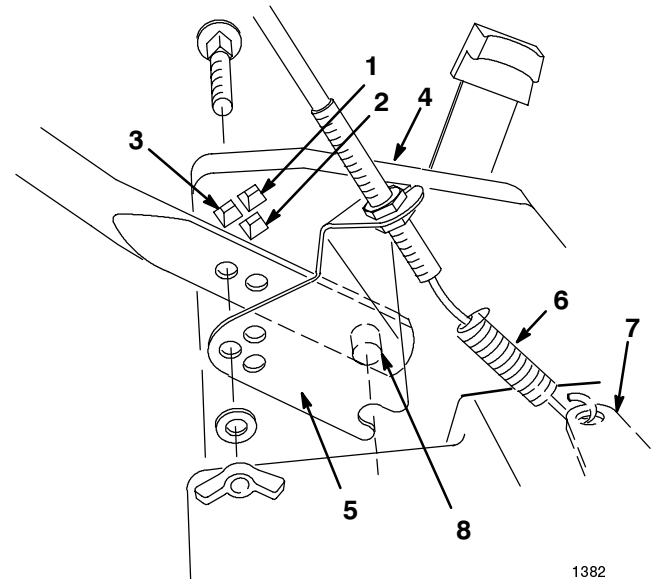

Figure 3
You can set the handle to three height settings: high, medium, or low (Fig. 3). Select the handle height setting most comfortable for you.
- Align the holes in the lower handle section with the holes in the lawn mower housing. Use the hardware shown in Figure 3 to secure the handle to the lawn mower housing.
- Hook the traction cable spring into the actuator bracket as shown in Figure 3.
- Match the three holes in the traction cable bracket to the three holes in the left side of the lawn mower housing. Secure the bracket with the handle hardware (Fig. 3).